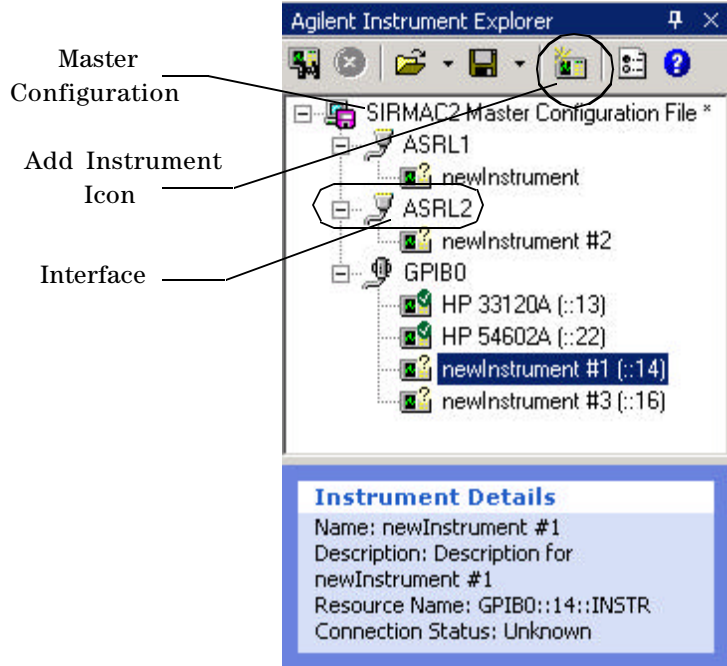

Figure 9 Adding an Instrument
- 1 Select the **Add Instruments** icon shown in Figure 9. Enter an instrument name, a description, and a resource name. An example of a resource name is GPIB1::7::INSTR. This instrument is not really connected to your system and